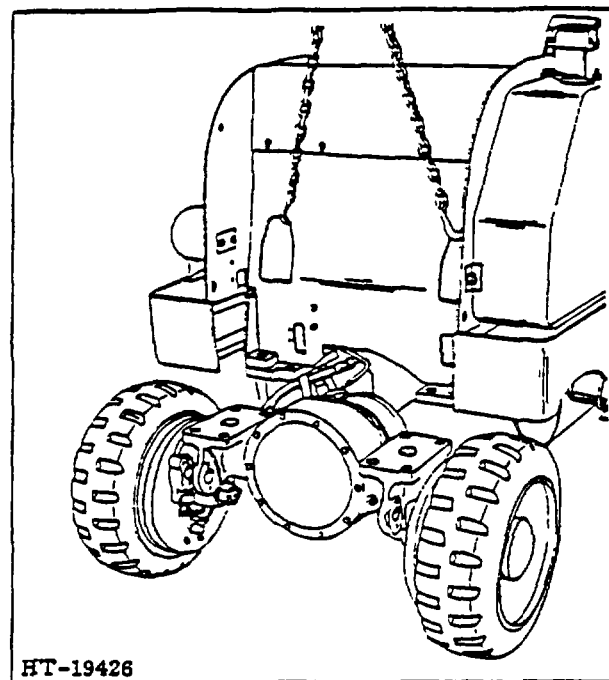

Figure 3. Drive Unit Removal
- d. See Figure 3 and attach hoist chain hooks in the tilt cylinder holes in the front plate. Pull chain snug to take the weight of the truck off drive axle.